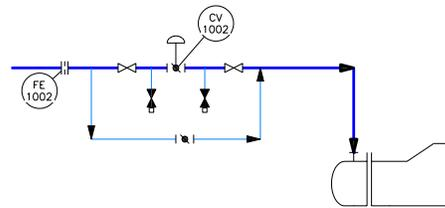

Figure 2-65 Location of the orifice on the steam inlet line of the heat exchanger
- Similarly, place another restriction orifice on the steam inlet pipe of the heat exchanger, refer to Figure 2-65. Next, enter the following values in the **Assign Tag** dialog box: